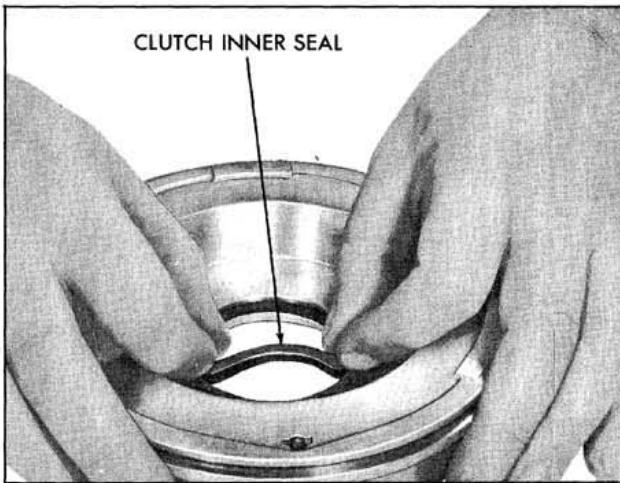

Fig. 6-161 Installing Piston Inner Seal
1. Install a new inner clutch piston seal on piston with lip facing away from spring pockets. (Fig. 6-161)